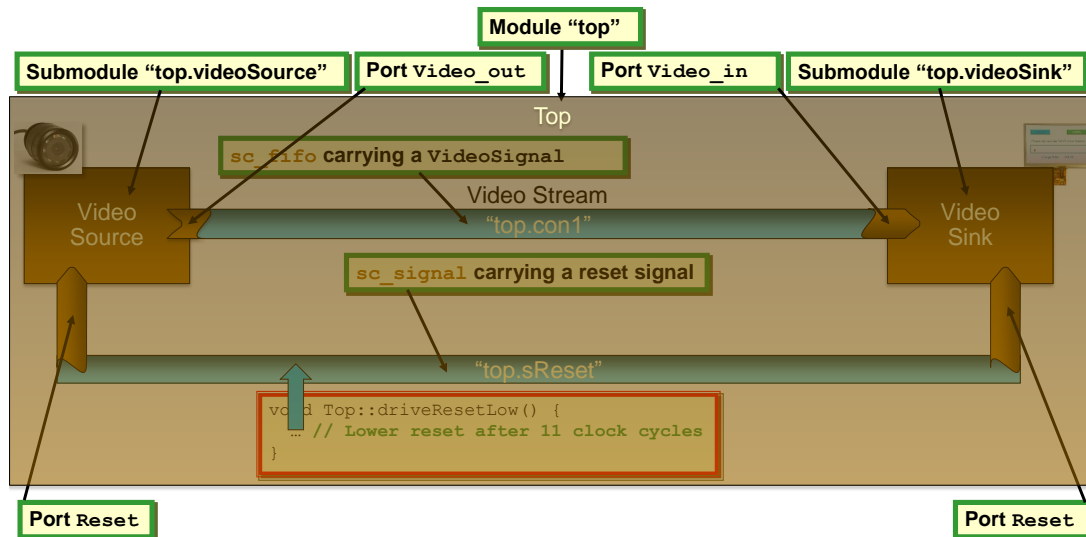
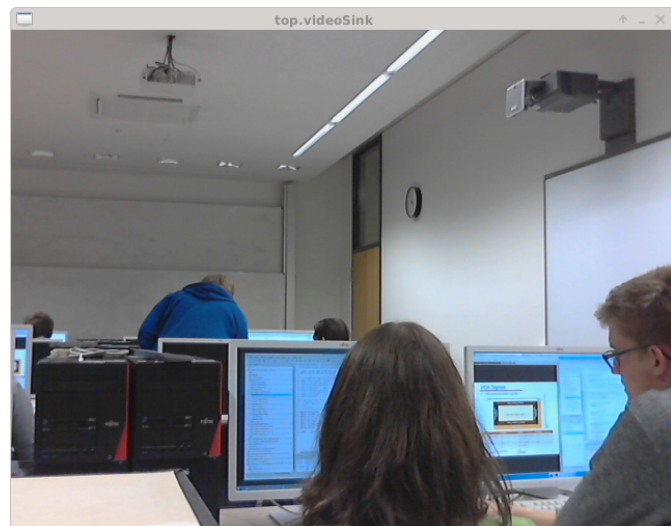
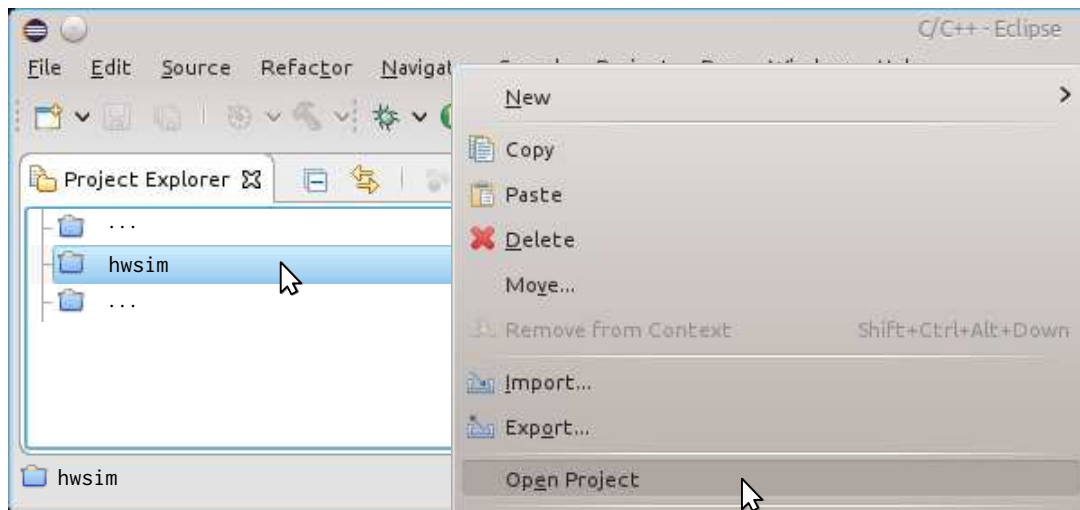

Figure 2: Architecture realized by the SystemC simulation environment when using a FIFO to connect the modules
Figure 3: Display window of the `VideoSink` module
Figure 4: Opening the hwsim project in the workspace
Finally, the `hwsim` project should implement the SystemC simulation environment shown in Figure 2. This environment contains a `VideoSource` that captures images from a USB camera, which will be given to you during the lab, and a `VideoSink` that displays the video stream in a window, e.g., as shown in Figure 3.
To continue, open the `hwsim` project in the workspace as shown in Figure 4.
In the following, you will realize a simple VideoSource to VideoSink filter chain as depicted in Figure 2. For this purpose, you open the project hwsim as is depicted in Figure 4.
- m) Then, use the con1 FIFO channel to connect the Video\_out port of the VideoSource module to the Video\_in port of the VideoSink module. Finally, run and test the VideoSource to VideoSink example by following the steps depicted in Figure 11. This should result in a display window similar to the one depicted in Figure 3.